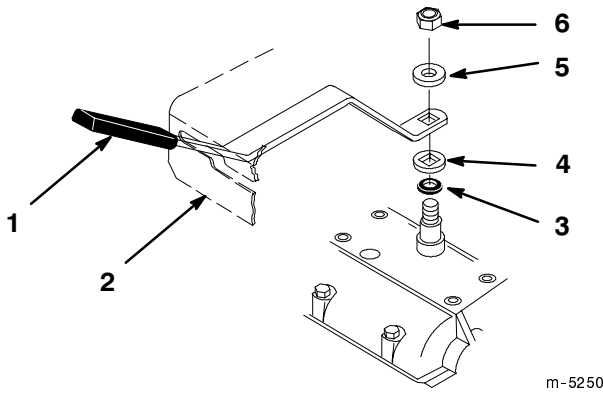

Figure 2
2. Align mounting hole in shift lever with square on transmission shaft (Fig. 2).
3. Replace the spring washer, dish down, and locknut (Fig. 2).